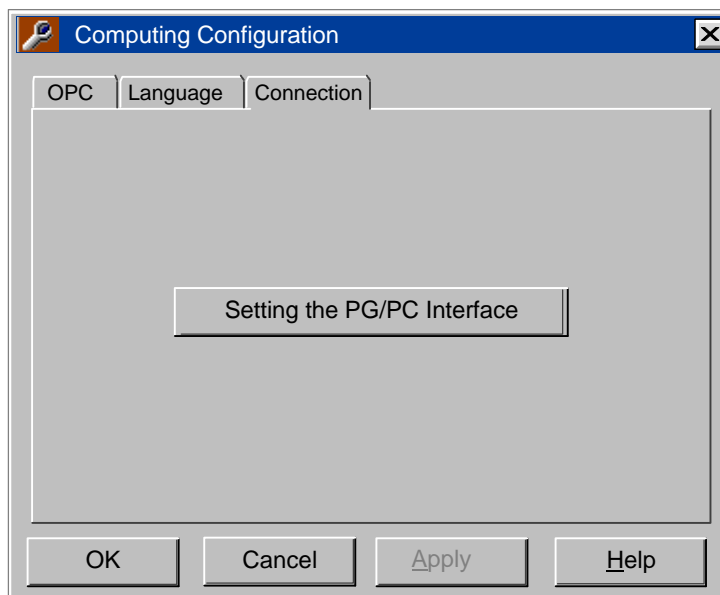

Figure F-2 Accessing the PG/PC Interface Application
1. Use the Start menu (**Start > Simatic > PC Based Control > Computing Configuration**) to open the Computing Configuration tool (Figure F-2).